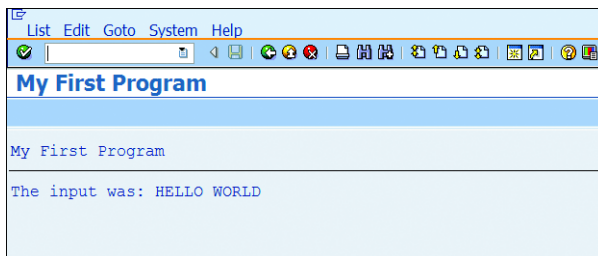

Figure 4.22 List Screen
10. Enter a value in the input field and click the `EXECUTE` button, or press `F8`. This should show you the output or `LIST` screen, as shown in Figure 4.22.